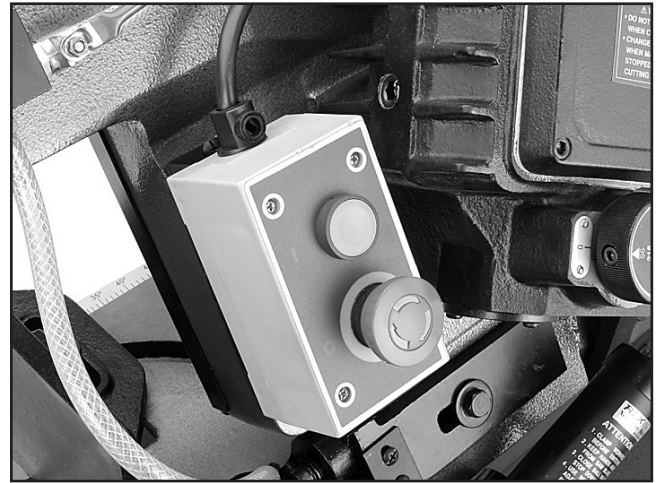

Figure 11. ON/OFF switch.
6. Start the bandsaw while keeping your finger near the ON/OFF switch at all times during the test run (**Figure 11**). The bandsaw should run smoothly with little or no vibration.